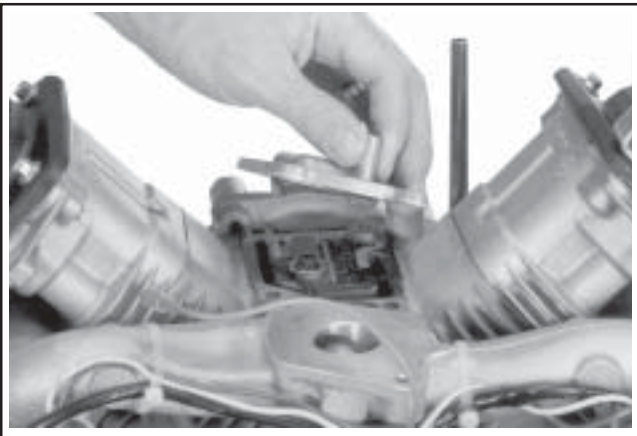

Figure 9-42. Removing Breather Cover.
5. Remove the breather cover and gasket (if used). See Figure 9-42.